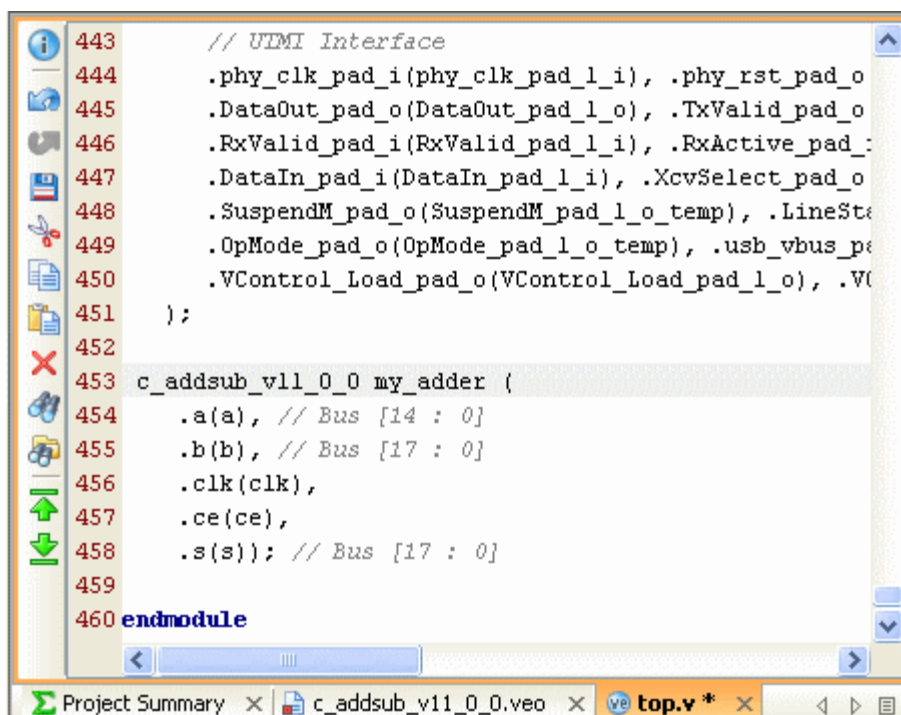

Figure 31: Instantiate IP in Your Design
- 7-2-8. Change the *YourInstanceName* text in the template to `my_adder` (Figure 31).